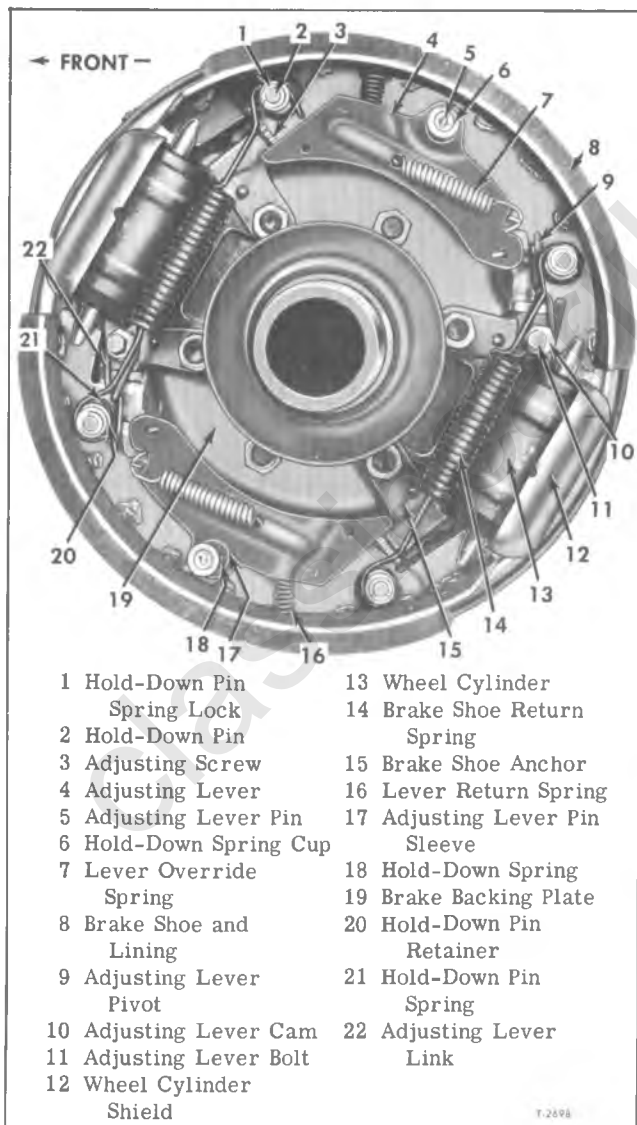

Figure 38—Twin-Action Rear Brake Assembly (Automatic Adjuster)
(Refer to Figure 38)
8. Thread the adjusting screw out of the brake shoe anchor and remove and discard the friction spring (not shown in figure 38).